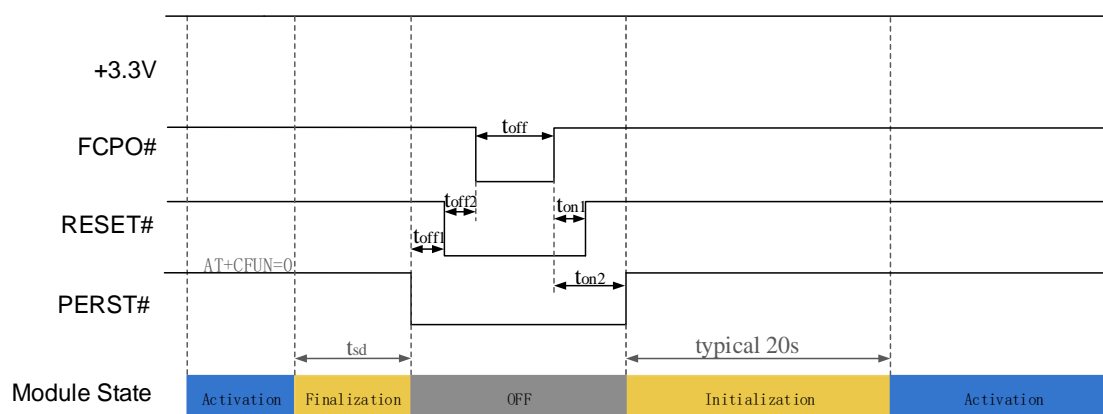

Figure 3-9 Reset control timing2nd
- Reset timing 2nd in Figure 3-9, PMU of module internal will be off in reset sequence (including whole power off and power on sequence, t_{sd} can refer section 3.3.2), recommend using in system warm boot.
Restart	Refer to section 3.3.3 Figure 3-9 Reset timing 2 nd